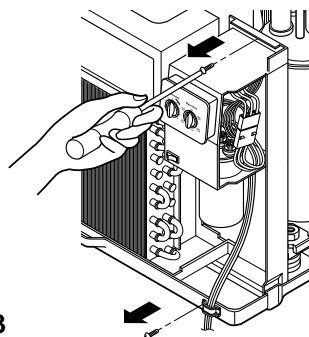

Figure 3
2. Remove the screw which fasten the control box. (See Fig. 3)
3. Pull the control box from the barrier. (See Fig.3)
7. Re-install the components by referring to the removal procedure. (See Fig. 3)